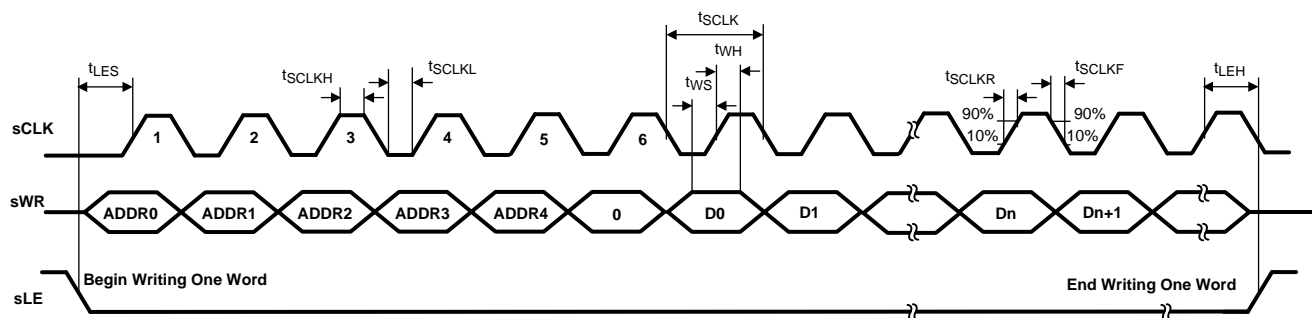
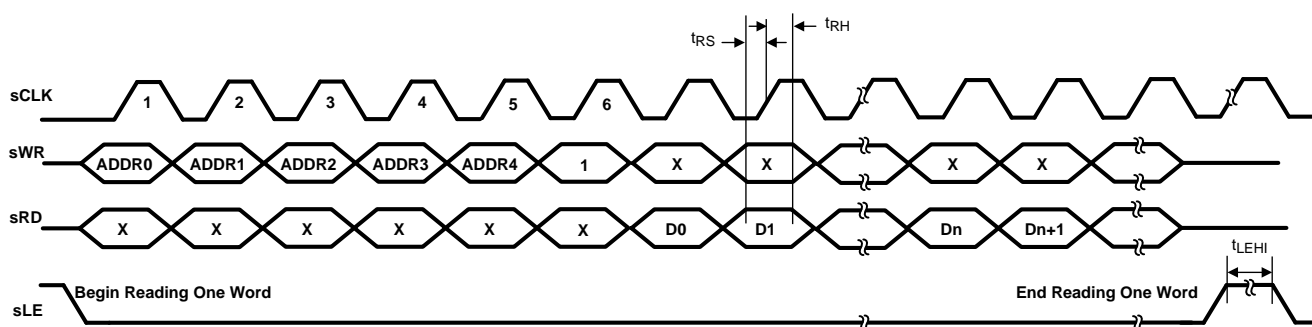

Figure 3. 4-Wire Serial Interface WRITE Timing
Figure 4. 4-Wire Serial Interface READ Timing
The pulse patterns and delay settings can be programmed into and read out from the individual channel controls via a four-wire serial interface. When the Latch Enable signal (sLE) is low, the targeted on-chip registers can be written through the serial data Write pin (sWR) at the positive clock edge (sCLK). In the same way, they can also be read out through the serial data Read pin (sRD). The writing and reading operations have the same timing requirements, which are shown in Figure 3 and Figure 4. The serial data stream starts with a 6-bit address, in which the first 5-bits identify the mode of updating which is interpreted by the Finite State Machine (FSM), and the sixth bit of the address indicates the 4-wire serial operation, either "WRITE" (0) or "READ" (1). The address is followed by the data word, whose length can vary from 8 bits to 64 bits. The data stream starts with the LSB and ends with the MSB. The first 5-bit address indicates which of the 27 registers is being accessed. The register map is shown in Table 3. In each 4-wire serial operation, only one register can be written to or read from at a time. TX_EN must be inactive during 4-wire serial interface operation.